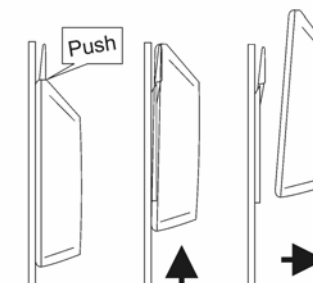

Fig. 4
4. To release the instrument press lightly on the bracket tab and slide the instrument upwards (Fig.4).